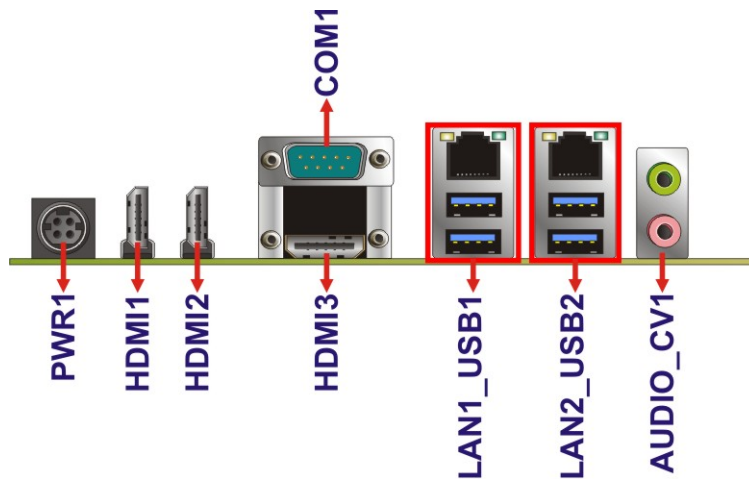

Figure 3-27: External Interface Connectors
Figure 3-27 shows the KINO-DQM170 motherboard external interface connectors. The KINO-DQM170 on-board external interface connectors are shown in **Figure 3-27**.
CN Location: See **Figure 3-27**
- CN Location:** See **Figure 3-27**
- CN Location: See Figure 3-27
- CN Location:See Figure 3-27